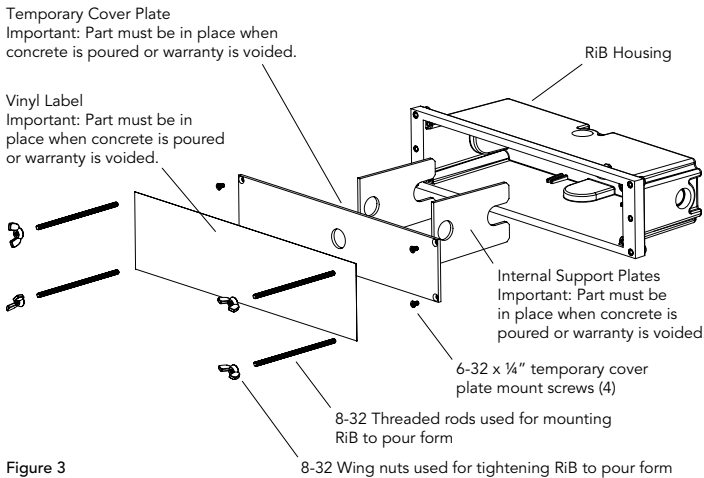

Figure 3
**IMPORTANT NOTE:** Internal supports, temporary cover plate, and vinyl label must remain in place during pouring and curing of concrete (fig. 3).
1. Install (4) threaded 8-32 rods (supplied) into RiB housing by piercing through vinyl label in specified location. Hand tighten until secure.